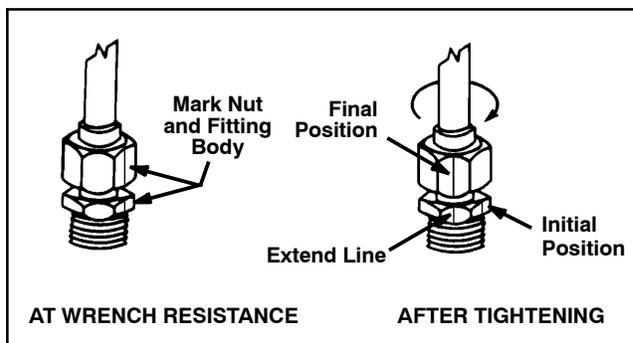

Figure 11
3. If a torque wrench is not available or if space at the swivel nut prevents use of a torque wrench, an alternate method of assembly is the Flats From Wrench Resistance (F.F.W.R.) method (Fig. 11).